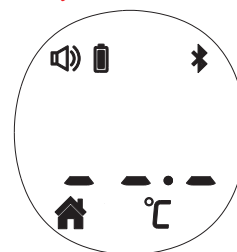

Figure 4
1. Press the *Test Button* to turn on the thermometer, you can take the object temperature after **going into object measurement mode.** (see figure 4)